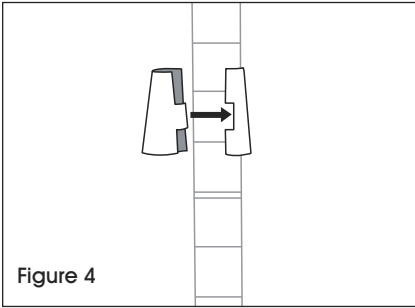

Figure 4
1. Start with the lowest shelf. Snap the interlocking pieces of a shelf support (wide end down) around the post at the lowest groove where shelf is to be located. Slide the support up or down until it snaps onto the groove. Add a shelf support to the same place on the remaining posts. (See Figure 4)